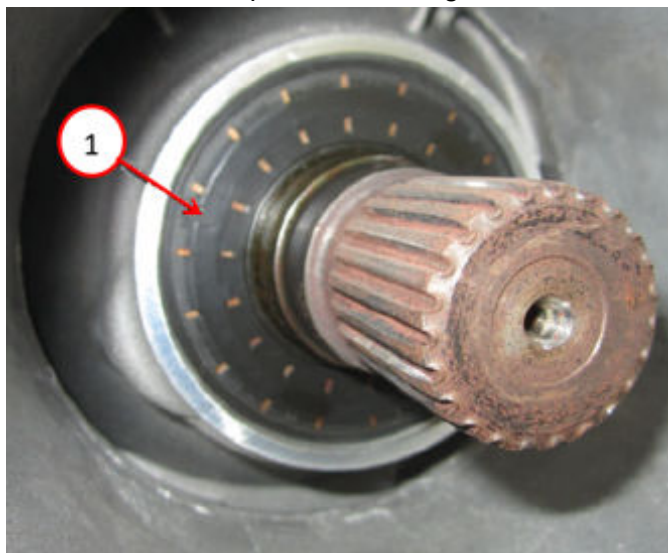

Fig. 51
78. Position the new output shaft seal over the output shaft and against the transmission case Fig. 51.